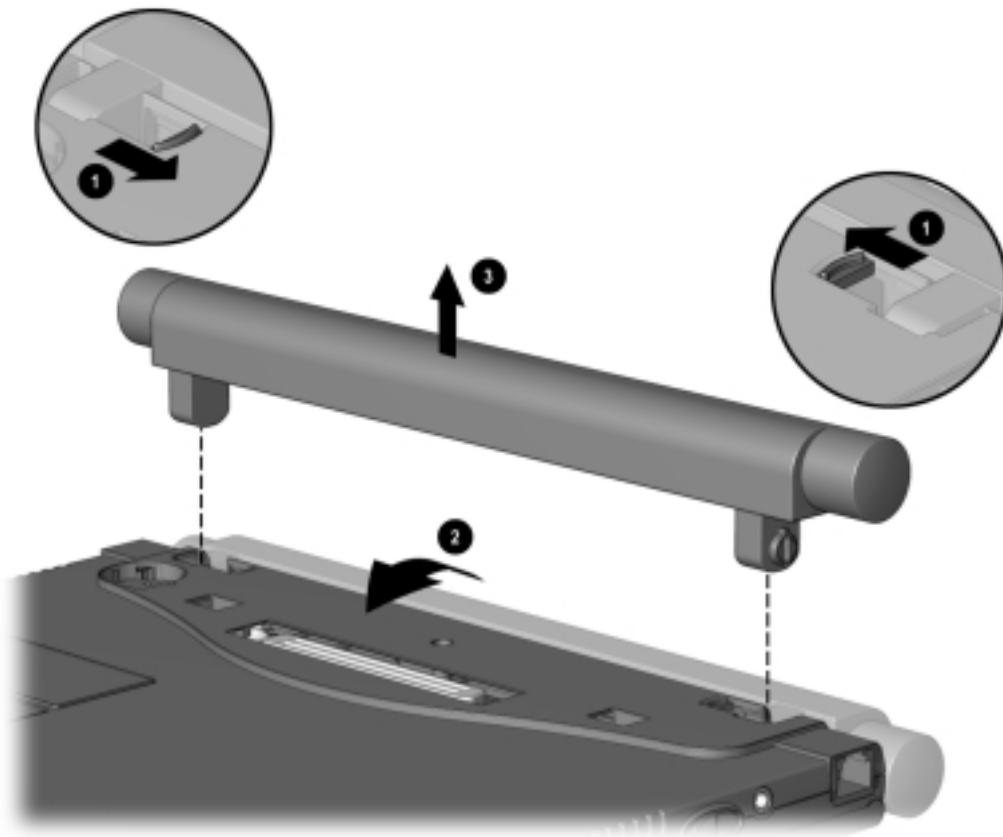

Figure 5-5. Removing the Battery Pack
4. Slide in the two battery latches toward each other ❶ (Figure 5-5).
5. Rotate the battery pack 90 degrees toward the computer ❷, and lift up the battery pack from the computer ❸.